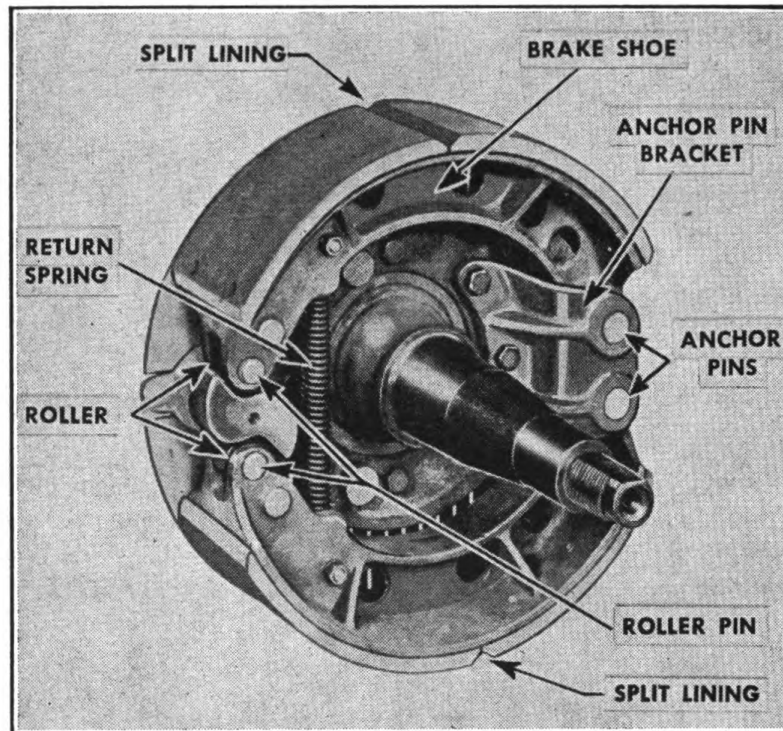

FIGURE 26. BRAKE ASSEMBLY.
6. BRAKE SHOES.—*a. Removal* (Fig. 26).—(1) Remove the three bolts holding the anchor pin bracket to the brake mounting plate.
(1) Drive out the old bushing.
(2) Press or drive in new. Drive new bushings in with care as a mushroomed or burred bushing will retard free movement of brake shoes, both in application and release. These bushings come reamed to proper dimensions. However, if reaming is necessary, ream to $1\frac{1}{8}$ " dia.
c. Replacing brake shoe rollers (Fig. 26).—The brake shoe roller on each shoe is held in place by a shaft fastened by three heavy prick punch marks on each side. Roller shafts may be driven out and rollers replaced without removing the shoes from the assembly.